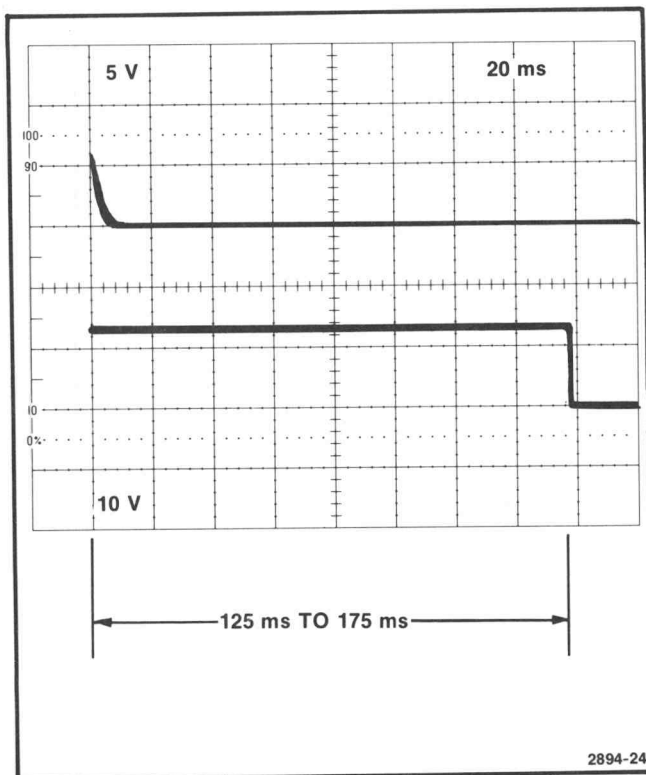

Fig. 4-17. Inspiration inhibit duration waveform.
d. Set test oscilloscope vertical position controls to obtain a display similar to fig. 4-17.